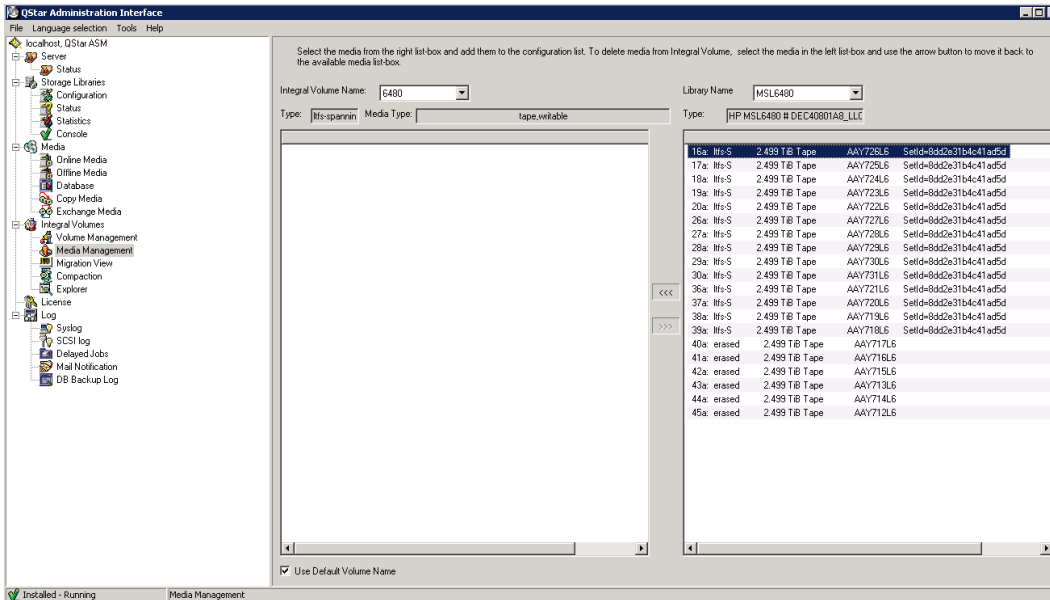

Figure 19. Adding media to the integral volume
3. When using an LTFS Spanned File System, QStar will write sequentially from media 0 to media x, so you only need to select one media then click on the left arrow for the media to be added to the Integral Volume. After that, QStar will automatically claim new blank/erased media from the pool. See **figure 19** as an example.